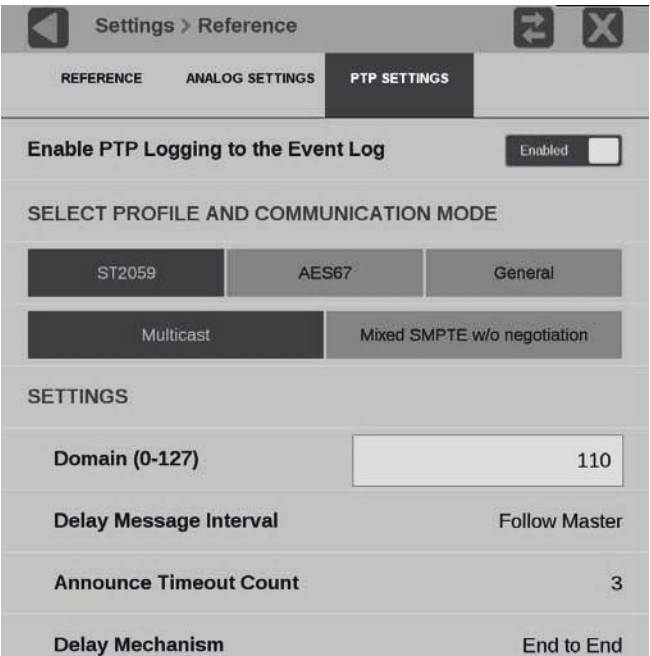

Figure 67: Editing PTP reference settings
2. Select **Reference** to open the Reference submenu and select the **PTP Settings** submenu. (See Figure 67.)